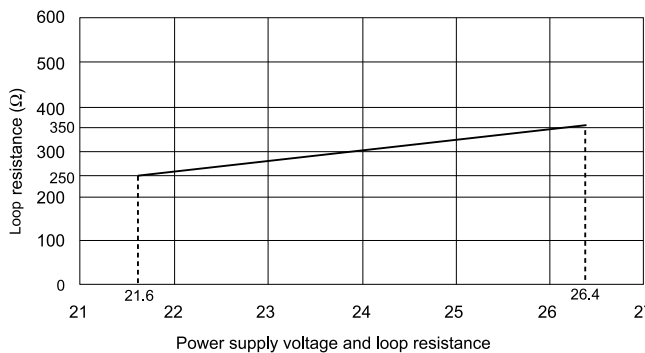

Figure 1.
21.6 V DC to 26.4 V DC (see Figure 1 for relationship between power supply voltage and load resistance)